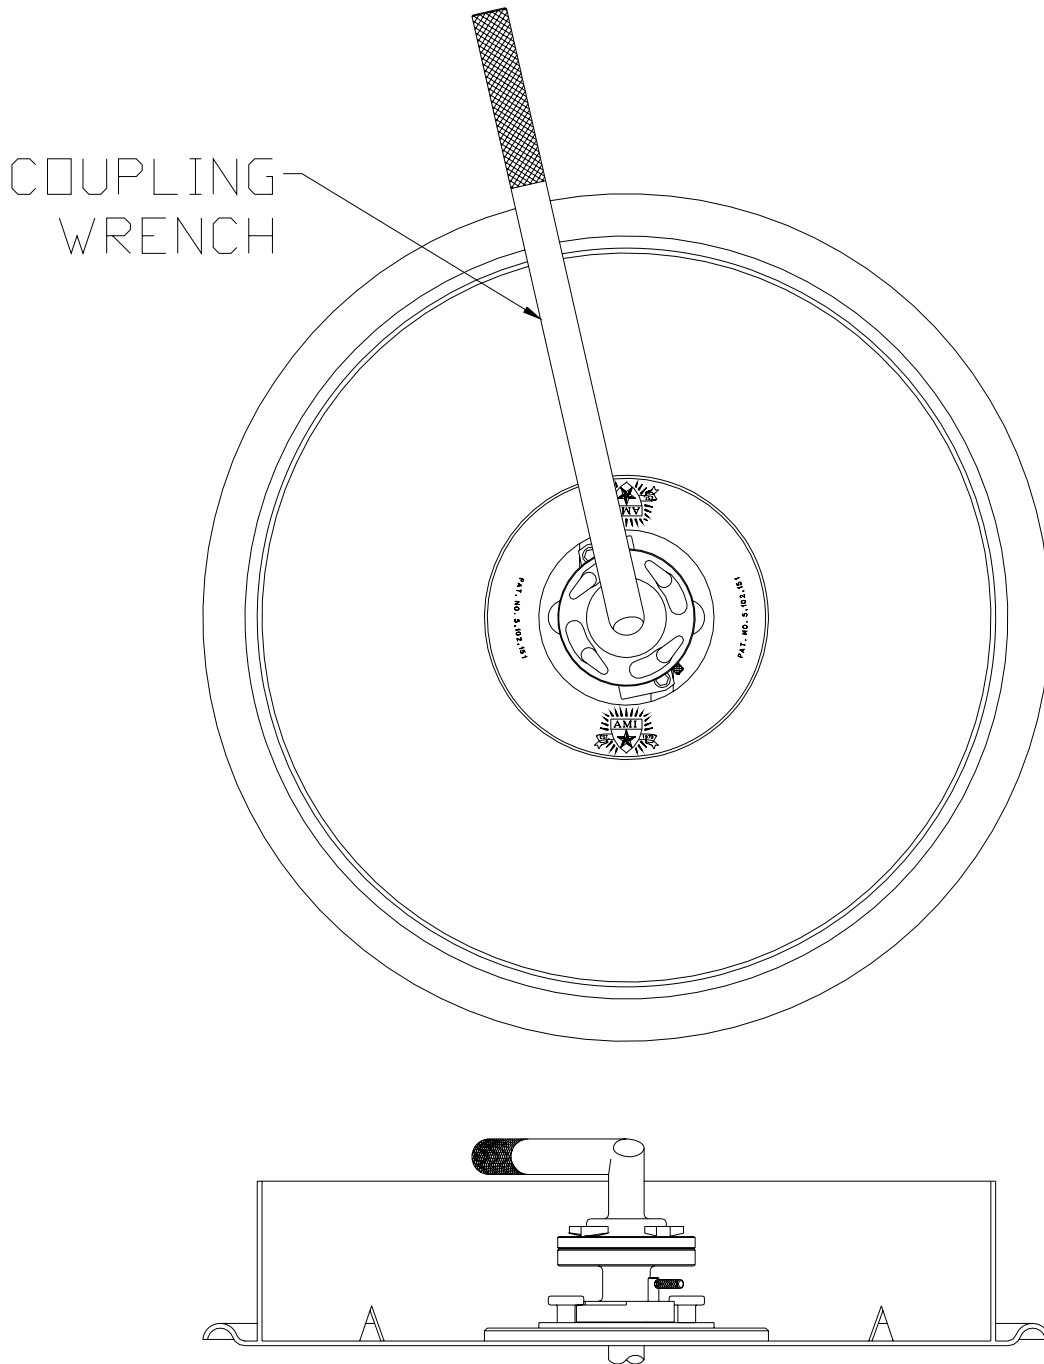

FIGURE 2
3.1.4 Install coupling wrench (AMI p/n 114787) over coupling dogs until flush with coupling surface. (see fig. 2)
4.1.1 Install coupling wrench (AMI p/n 114787) over coupling dogs until flush with coupling surface. (see fig. 2)